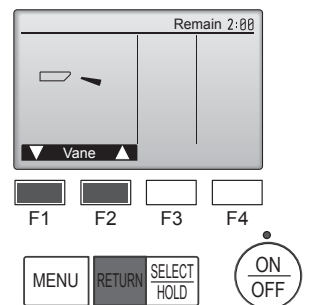

Fig. 7-4
- ② Press the [SELECT/HOLD] button to display the Vane operation screen, and then press the [F1] and [F2] buttons to check the auto vane. (Fig. 7-4)